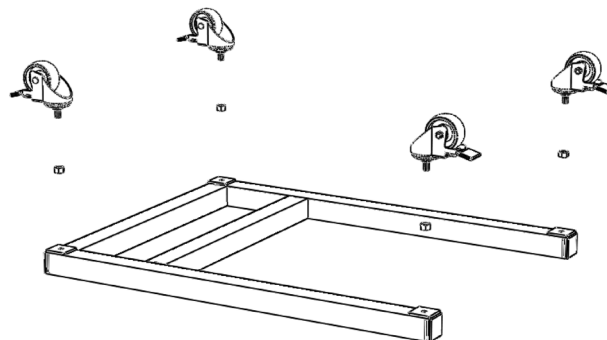

FIG. 4.1
1. Attach (4) locking swivel castors to the bottom of the base plate with the 1/2" nuts. (Fig. 4.1)